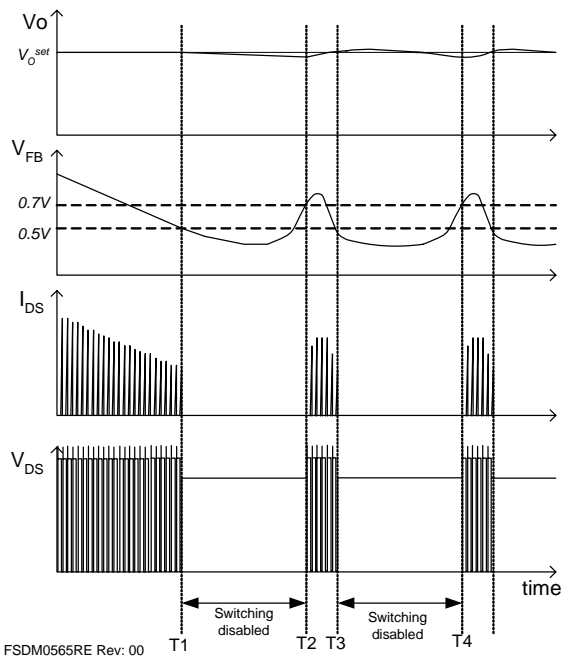

Figure 21. Waveforms of Burst Operation
**5. Burst Operation:** To minimize power dissipation in standby mode, the FSDM0x65RE enters burst-mode operation. As the load decreases, the feedback voltage decreases. As shown in Figure 21, the device automatically enters burst mode when the feedback voltage drops below  $V_{BURL}$  (500mV). At this point, switching stops and the output voltages start to drop at a rate dependent on standby current load. This causes the feedback voltage to rise. Once it passes  $V_{BURH}$  (700mV), switching resumes. The feedback voltage then falls and the process repeats. Burst-mode operation alternately enables and disables switching of the power SenseFET, thereby reducing switching loss in standby mode.